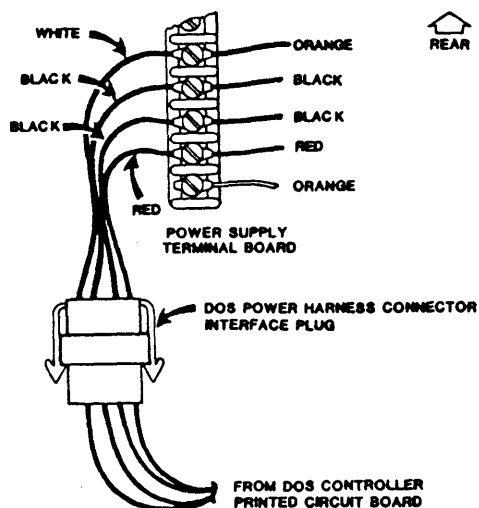

Figure 6-3. DSS Power Supply Harness Connection, Top View
2. Remove the four Phillips-head screws securing the top cover to the DSS assembly, and carefully remove the top cover. Note the position of the ribbon cable connectors to the disk drives (see Figures 6-3 and 6-4). Disconnect the I/O ribbon cable connectors from the Disk Controller Board and remove the cable from the DSS assembly. (This helps to position and fold the I/O cable after the DSS assembly is placed on the K450 chassis.)
5. Locate the DSS power harness connector cable near the power supply which is installed by the manufacturer for interfacing the DSS option (See Figure 6-3). Connect the power harness connector plug from the DSS unit to the power supply harness connector through the rear access slot.